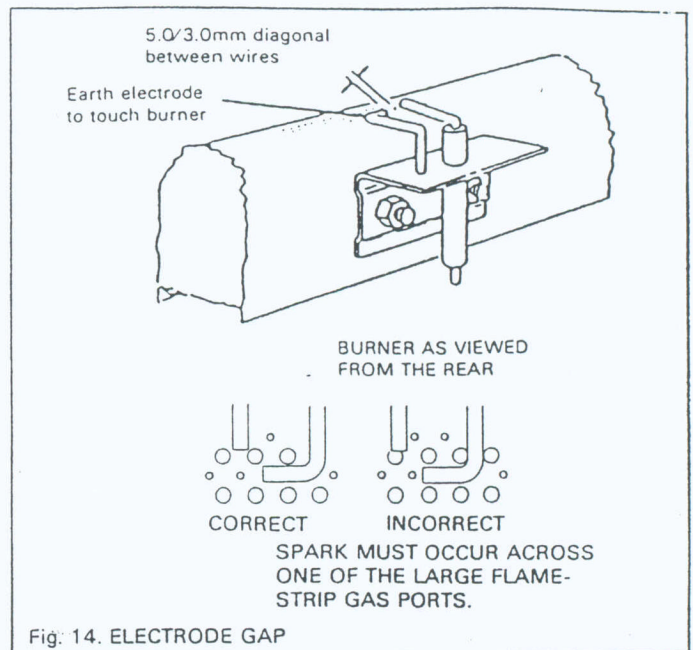

Fig: 14. ELECTRODE GAP
- Continue to hold the control knob in for a further five seconds. On releasing the control knob, the fire should remain alight as described under 1/IGN in the control settings table below. If the burner does not ignite after ensuring that the air has been purged, check that the electrode gap is as shown in fig. 14 (See servicing section for access to the electrode).